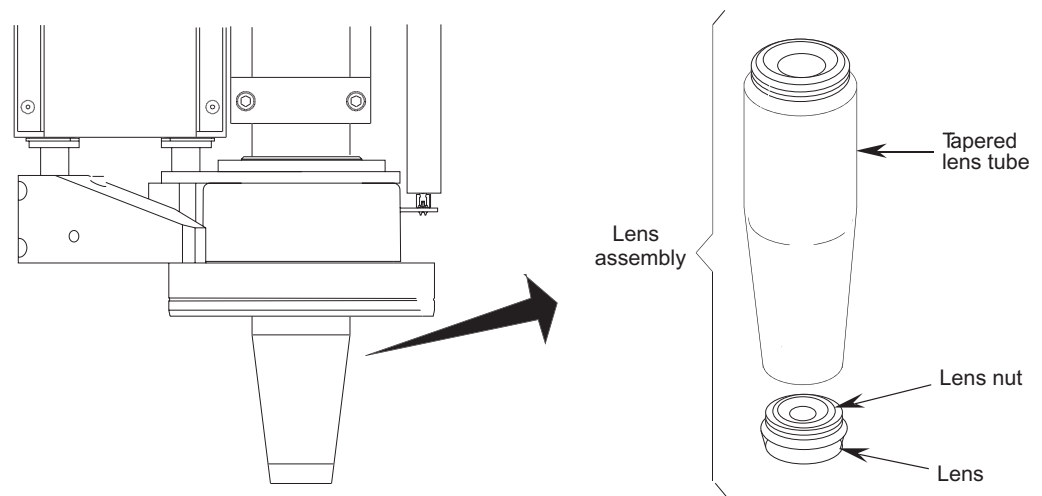

Figure 9-3 Optics Assembly
3. Remove the existing lens tube assembly, and install the replacement lens tube assembly; refer to Figure 9-3.